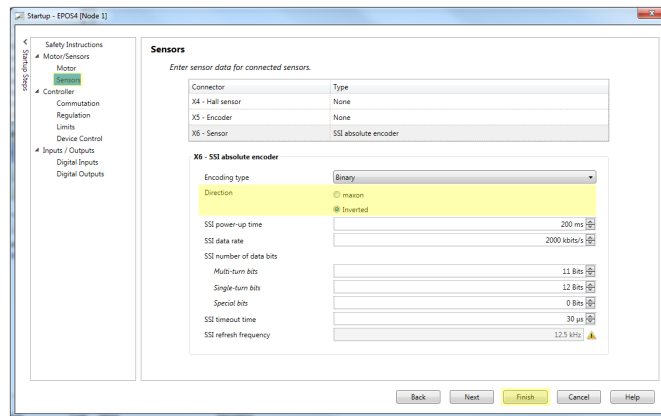

Figure 8-87 Adjustment of SSI commutation offset value | Toggle sense of rotation
d) If the indication decreases, open the «Startup» wizard \ «Motor/Sensors» and select «Sensors». Toggle the sense of rotation by changing the active checkbox «Direction» (→Figure 8-87). Click «Finish» to close the wizard and verify the correct setting as described above.